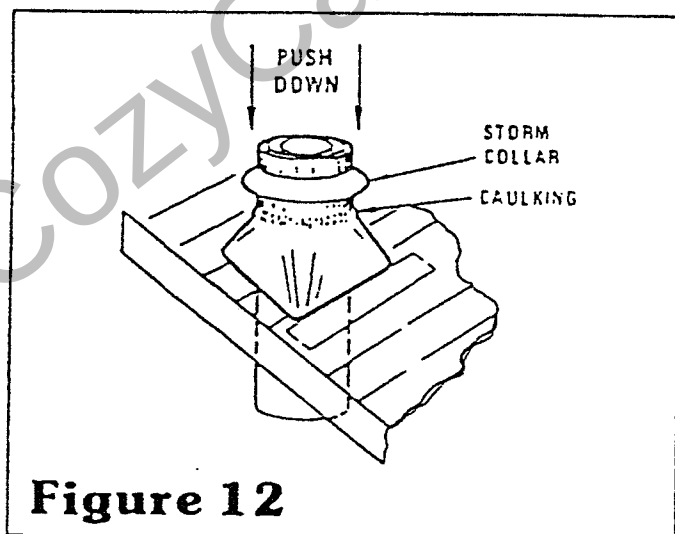

Figure 12
Step 9 Slide flashing under shingles into position and renail top and side shingles. DO NOT nail through lower flange of flashing. If desirable, cover sides and top of flashing with salvaged shingles (Figure 12).
Step 11 Install storm collar on triple-wall pipe. Apply waterproof caulking around flashing where collar will be seated, and push storm collar down securely on sealer and flashing (Figure 12).